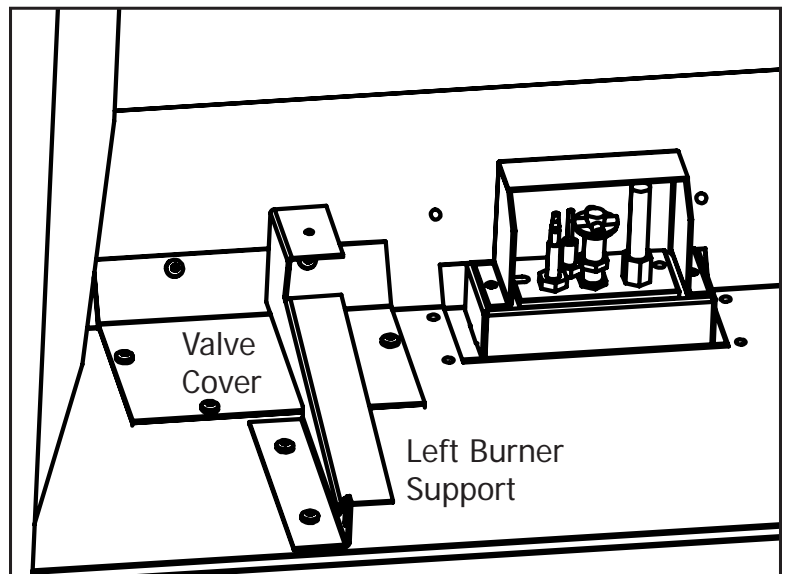

Figure 21: Valve Cover and Burner Support.
5. Then remove the six screws that hold the valve cover in place (pointed out in Figure 21).